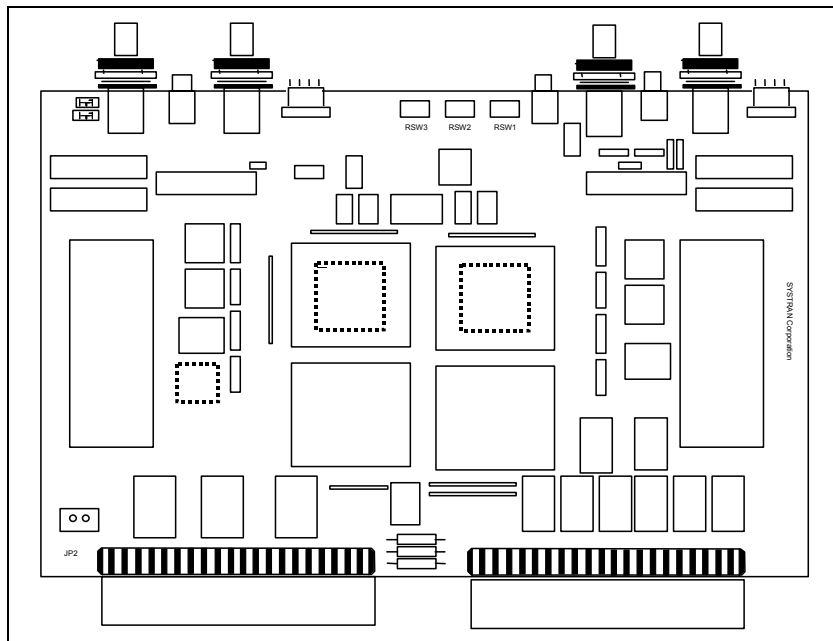

Figure 2-1. DTI-VME/S Board
Remove the hardware board from the packing box (Figure 2-1).
3. Jumper 2, located in the lower left corner of the board (Figure 2-1), enables the Bus Grant Signals. Insert this jumper to pass the Bus-Grant signal through each slot.